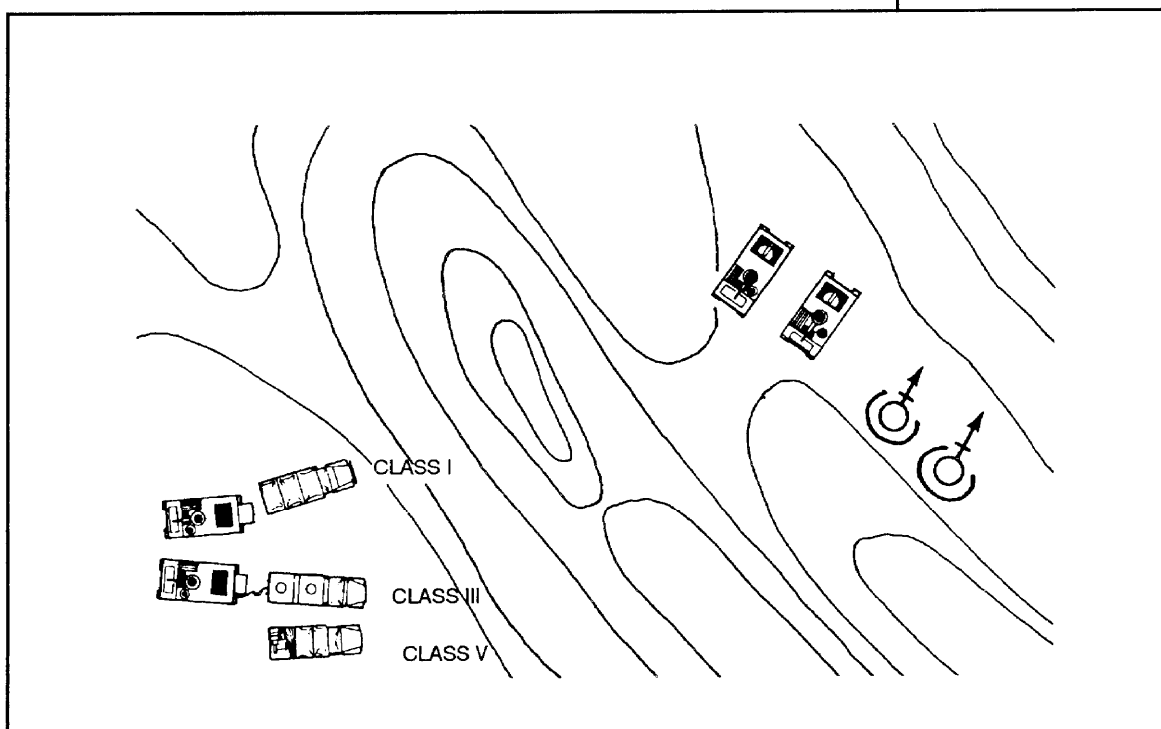

Figure 9-4. Transloading.
c. Transload is a modified version of out-of-position resupply (Figure 9-4). With this method, the platoon sends a portion of its vehicles back to the supply point, loads them up, and then returns to resupply the rest of the platoon.